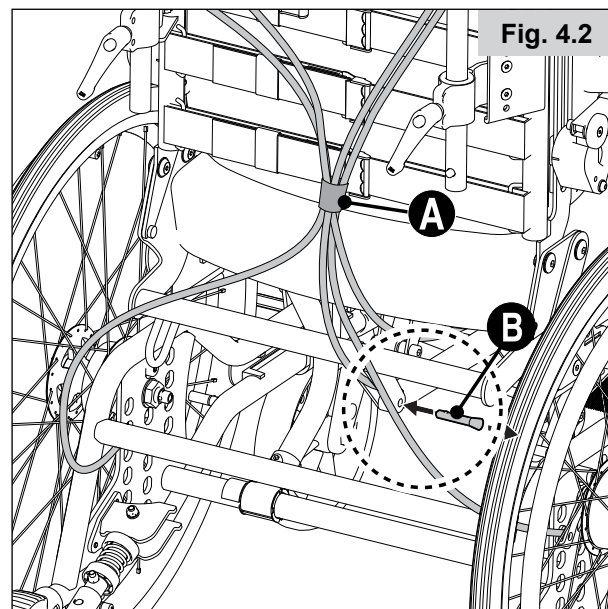

Fig. 4.2
4.1 Fold the backrest up or down (Fig. 4.2)
Place the wires as shown in the illustration (Fig. 4.2) when folding the backrest up.